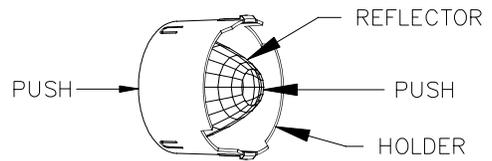

FIG. 6
INSTRUCTIONS FOR INSTALLING REFLECTOR (FIG. 6,7,8).
1. Confirm that REFLECTOR is held securely in HOLDER. If REFLECTOR is loose then push (FIG. 6) into HOLDER until REFLECTOR rests flat against LENS and is held by all three snaps.